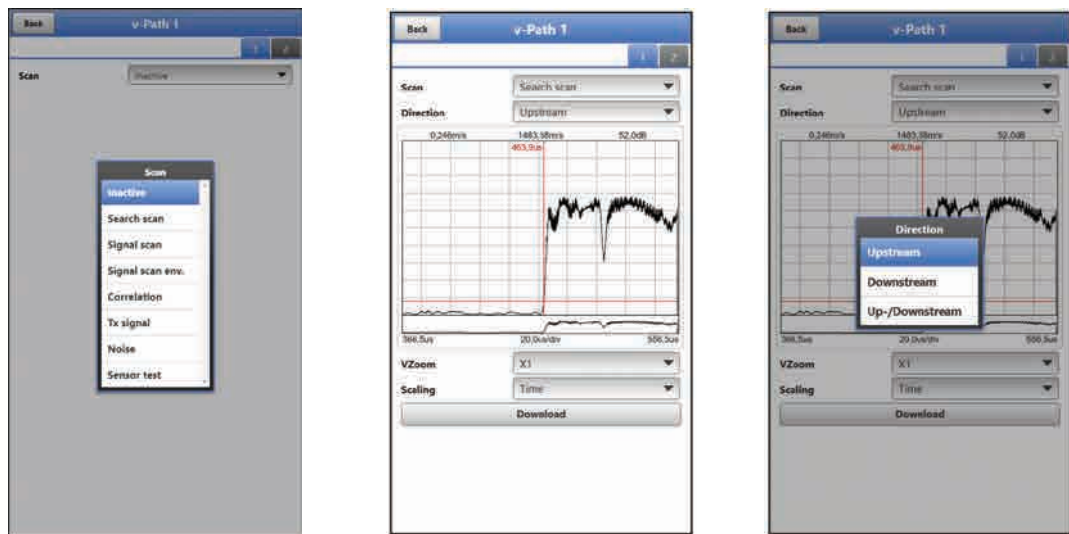

Fig. 49-1 Signal analysis menu / Search scan
- **>Search Scan<** (Fig. 49-1)